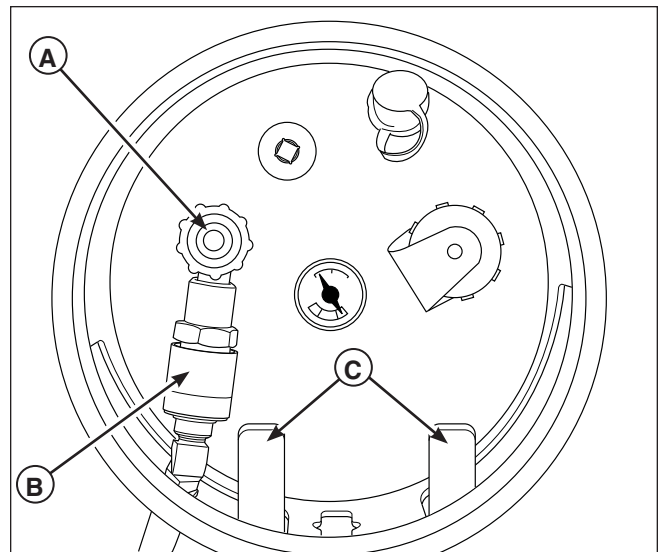
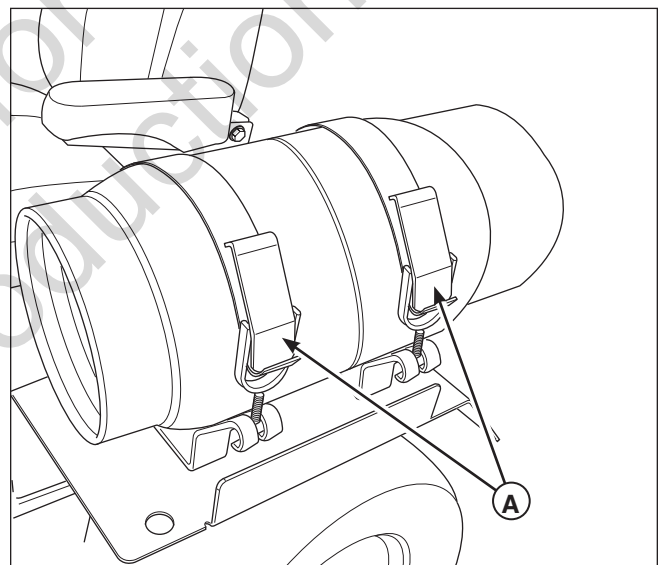

Figure 1. Closing the Fuel Tank Shut-Off Valve
Figure 2. Releasing the Tank Straps
1. Close the the fuel shut off valve (A, Figure 1) by turning it CLOCKWISE.
2. The fuel supply hose fittings (B) are left-handed threads. Rotate the fuel supply hose fitting to the right to loosen the fuel supply hose fitting.
3. Release the propane tank straps (A, Figure 2) that secure the propane tank to the machine.
1. Position the propane tank so that the tank positioning bracket (C, Figure 1) fits into the slots located on either side of the center slot.
2. Connect the fuel supply hose fitting (B) to the tank. Turn the fuel supply hose fitting to the left to tighten the fuel supply hose fitting.
3. Tighten the propane tank straps (A, Figure 2) that secures the propane tank to the machine.
NOTE: Wait until you are ready to start the machine before re-opening the fuel shut off valve (A, Figure 1).